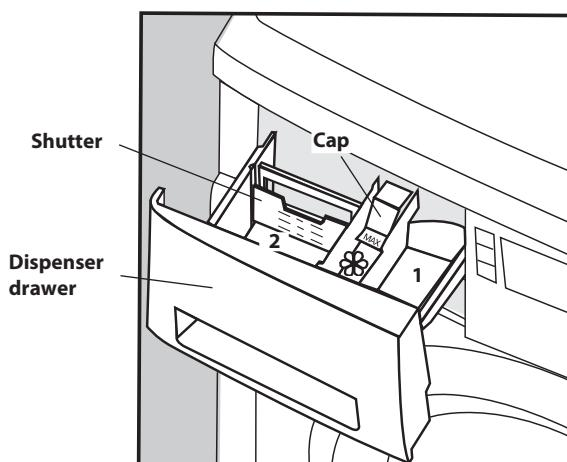
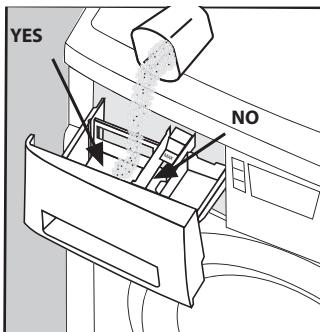
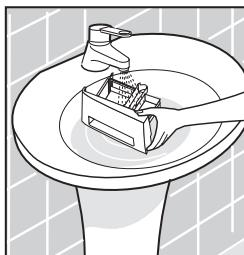

Figure 15
Figure 16
Figure 19
**ATTENTION! For the first washing, add 1/2 of the recommended dose of washing powder (detergent) into compartment 2 of the dispenser drawer (Fig. 15), making account of the manufacturer's guidelines as to the maximum items loading.**
The machine has a drawer for loading washing powders or detergents (Fig. 15). The drawer has three compartment marked with figures and a symbol as follows:
Shutter, in section 2 in accordance with Figs. 15 and 16, is provided for liquid detergent using. Numeral
When you are using SDs as powder, take the shutter out of the main wash compartment 2 (Fig. 15). Be careful not to put any powder into the compartment for special treatment substances (Fig. 16), otherwise foam may form during rinsing and white spots may appear on the items.
When choosing the program  (Spot Removal), put the bleachers into compartment 1 (Fig. 15), and the bleaching will take place immediately after the main washing.
To improve the washing quality and protect the Machine from lime sediments, when washing in water having hardness II or III, it is recommended to use, alongside with SDs, a water softener. It should be added to the SD into compartment 2 (Fig. 15) according to manufacturer's guidelines.
Spots of mould are removed at washing with adding of a bleacher into the bleacher tray (Fig. 15), if the cloth withstands the effect of the bleacher. Otherwise, the dirty spot is moistened with 10-percent solution of hydrogen peroxide and left for 15 minutes.
Take the shutter, caps, and bleach tray out of the drawer (Fig. 15), and carefully wash their internal and external surfaces under a jet of warm water. Wash the dispenser drawer (Fig. 19). Install the removable parts back into the drawer and insert the drawer back into the Machine.